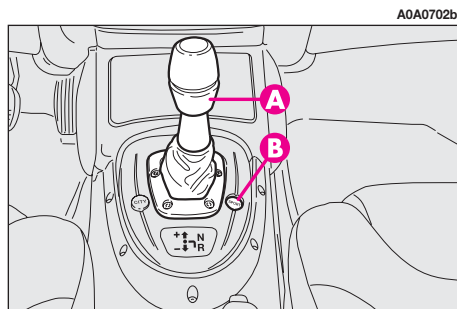

fig. 124
- 2**) sport: (to be activated by button **B-fig. 124**): for sporty driving.
Sport operating mode is selected by pressing button **SPORT (B-fig. 124)** set on the gearshift lever; when selecting this mode, the display will show **SPORT**.
- the control lever on the centre console (**A-fig. 124**);